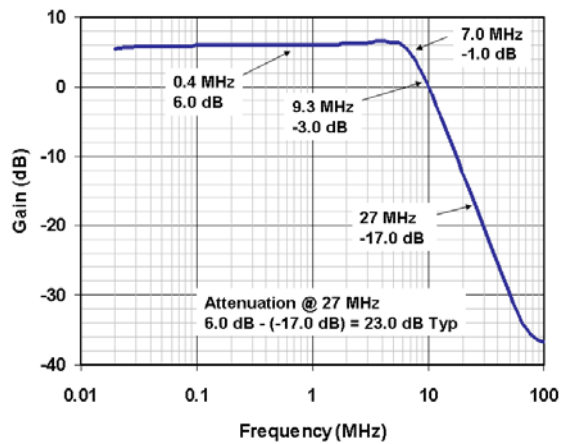

Figure 2. Frequency Response
9. The normalized gain is guaranteed by design and characterization. The max normalized gain of +0.8 dB is the result of smooth peaking (pre-emphasis, see figure 2) taking into account the increase of the losses at the highest frequencies into connectors and cable at the output. For frequencies lower than 2 MHz the max normalized gain is 0.4 dB.